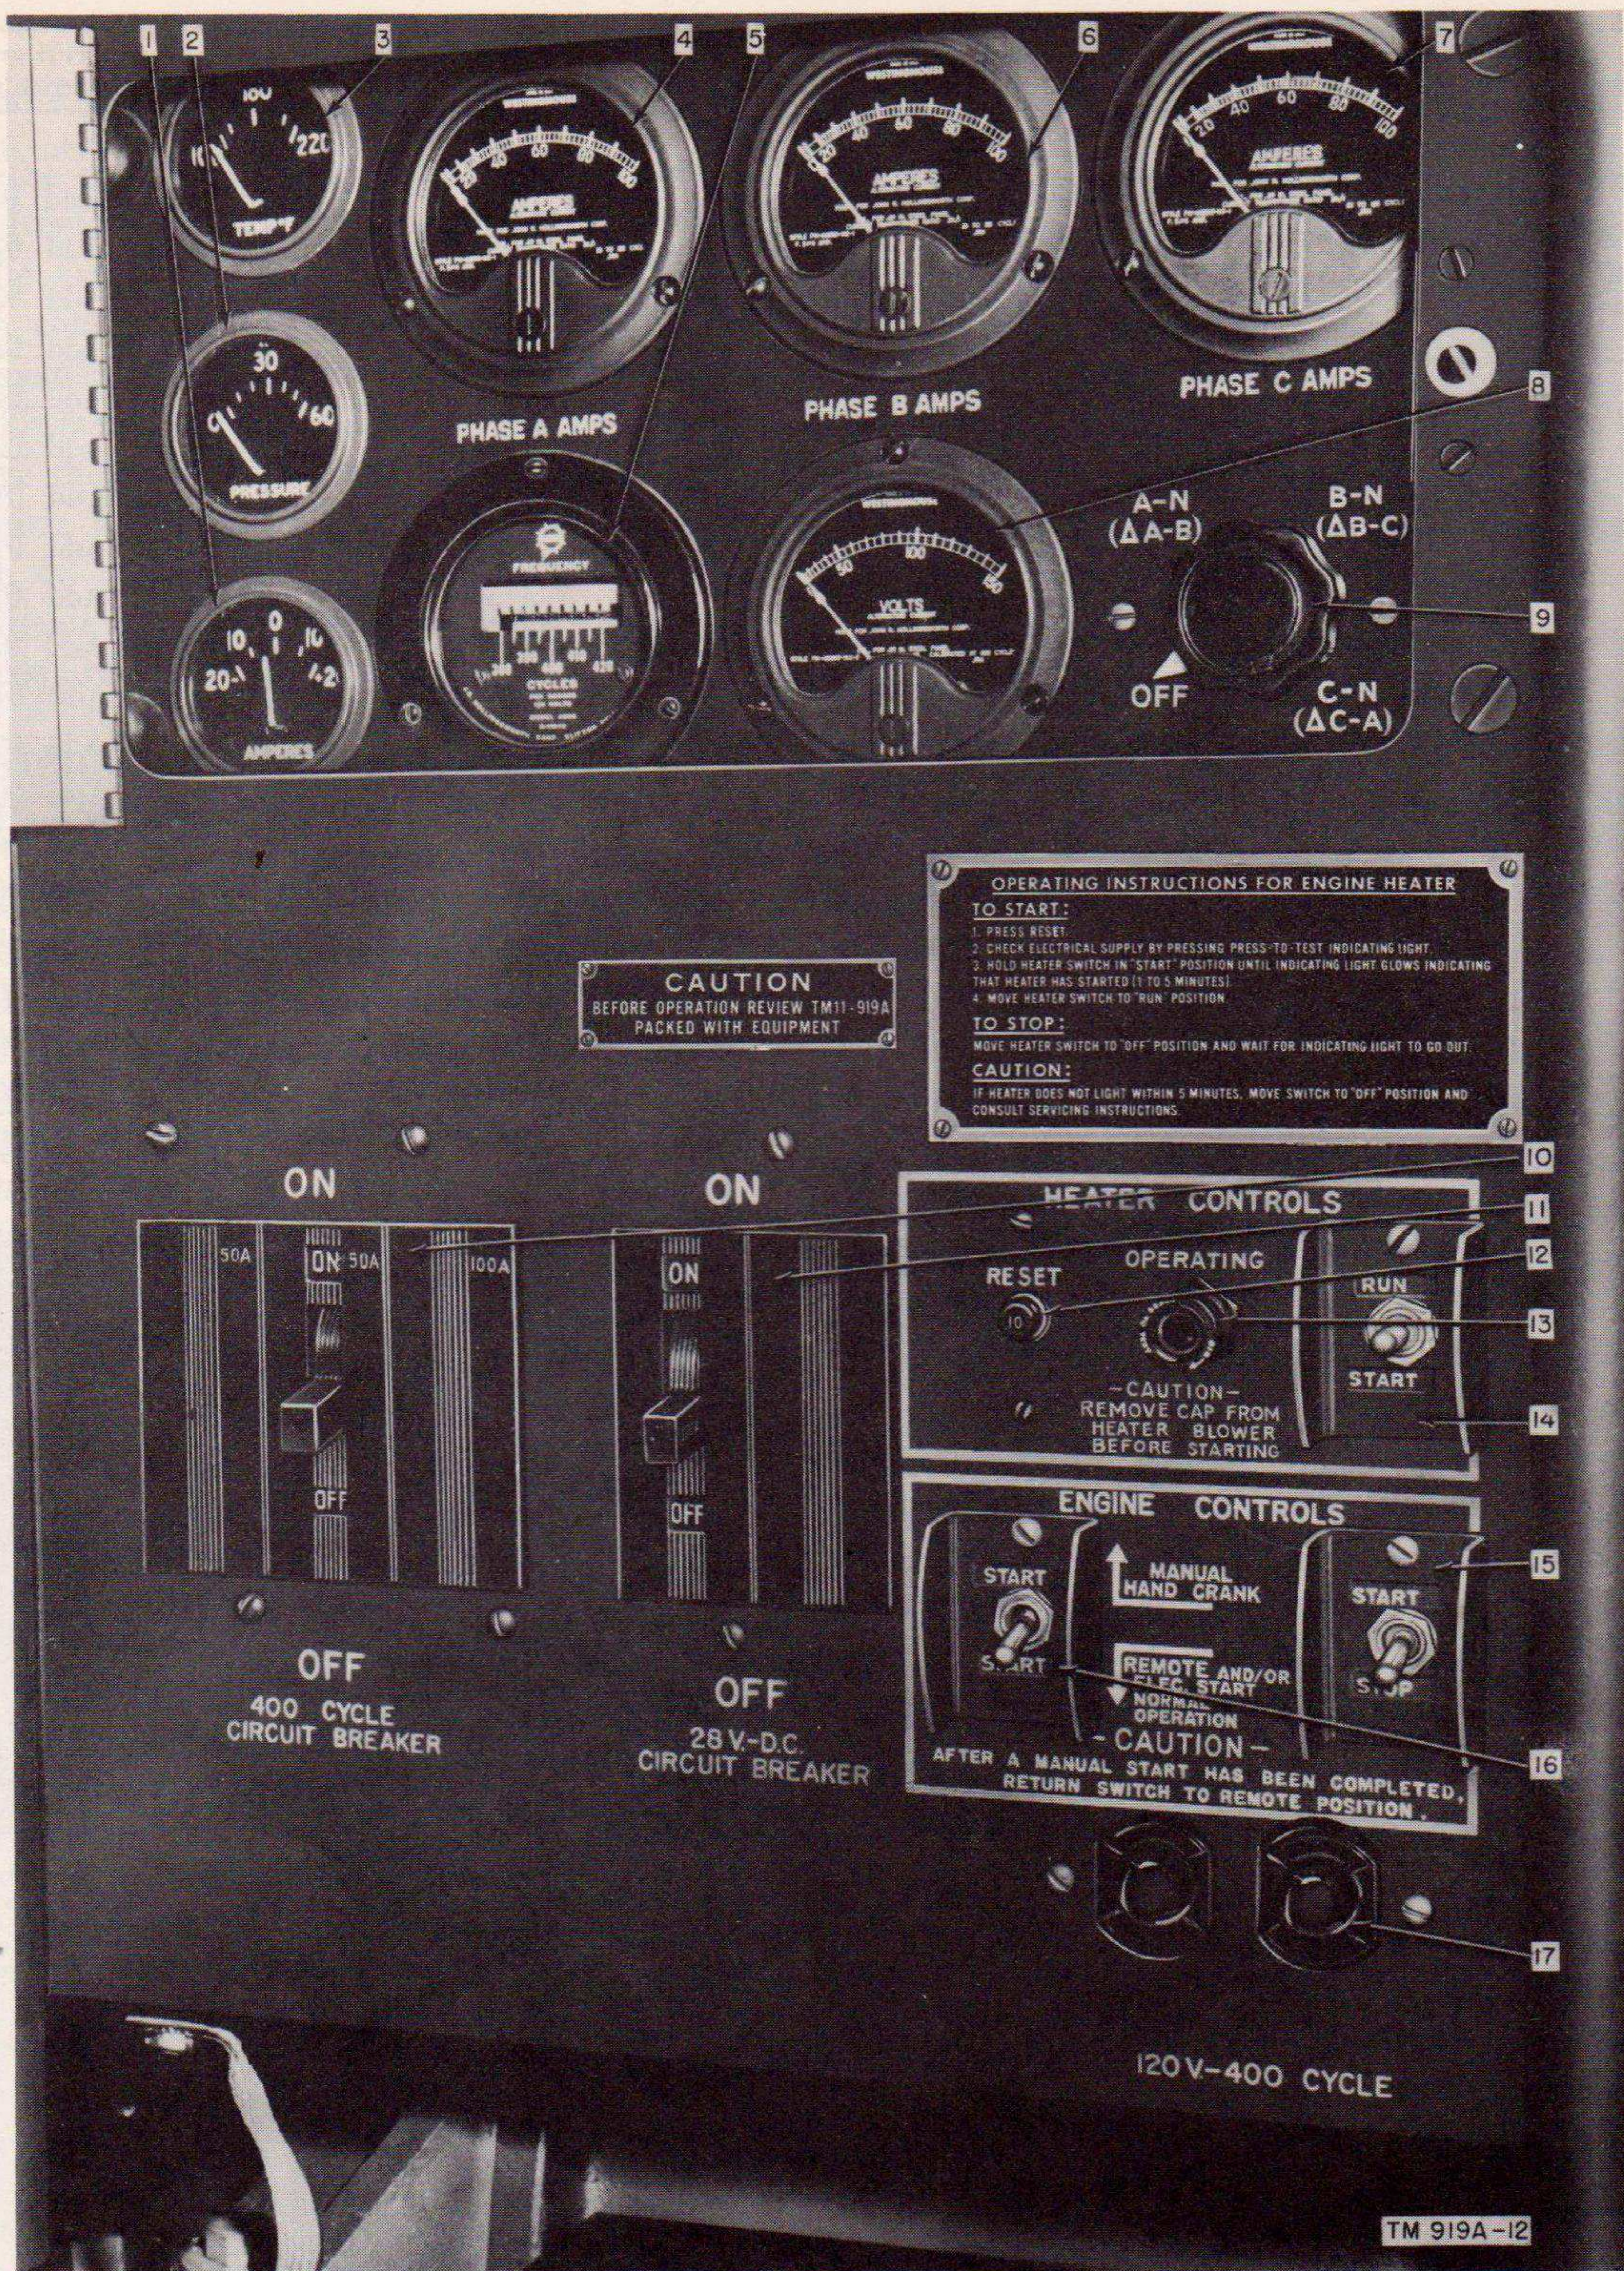

Figure 12. Instrument and control panel.
- (1) *Ignition switch* (16, fig. 12). A toggle-type switch, located on the control panel, selects the ignition circuit for MANUAL HAND CRANK or REMOTE AND/OR ELEC. START NORMAL OPERATION. If the unit is to be started by hand cranking, place the switch in the MANUAL HAND CRANK position; if the set is to be started remotely or by the START-STOP switch (subpar. (2) below), place the switch in the REMOTE AND/OR ELEC. START NORMAL OPERATION position.
- (2) *START-STOP switch* (15, fig. 12). The three-position, START-STOP toggle switch is located on the control panel. To start the set, hold the switch in the START position; to stop the set, place the switch in the STOP position. The switch is designed so that the actuating handle returns to the center position when released from the START position.
and a variable voltage resistor. The 28-V. D. C. CIRCUIT BREAKER (11, fig. 12), mounted on the control panel, serves as the main load switch and the overload trip in the dc circuit. To connect the load, push the trip lever to ON; to disconnect the load, push the trip lever to OFF. The circuit breaker trips off automatically (par. 19b(1)) whenever the circuit becomes overloaded. To reset the circuit breaker after it has tripped, push the lever all the way down to the OFF position and then up to the ON position. The variable resistor on the dc voltage regulator (3, fig. 4) has a range of from 25 to 30 volts. Turn the slotted shaft of the variable resistor until the desired voltage is reached.
*c. Winterization System* (fig. 12). All the winterization controls are located on the control panel.
(1) *Circuit breaker (RESET)*. The circuit breaker (RESET) (12) is used as the main switch to connect and disconnect the winterization system circuit. Push in the RESET button all the way to connect the system; pull out the button to disconnect the system. The circuit breaker trips off automatically (par. 19c(1)) whenever the circuit becomes heavily overloaded. To reset the circuit breaker after it has tripped, push in the RESET button.
(2) *Heater RUN-START switch*. The heater RUN-START switch (14) is used to start and run the winterization heater. To start the heater, after the RESET button has been pushed in (subpar. (1) above), hold the switch in the START position 2 to 4 minutes. After the heater OPERATING indicator lamp (subpar. (3) below) flashes on, place the switch in the RUN position. To shut off the heater, place the switch in the off (center) position.
(3) *Heater OPERATING indicator lamp*. The heater OPERATING indicator lamp (13) shows when the heater is in operation (par. 19c(2)). The lamp also may be used as a check on the power supply to the heater. To check the power supply, be sure the circuit breaker (RESET) button (subpar. (1) above) is in all the way. Then press the lamp. If power is available, the lamp will glow.
(1) *Circuit breaker* (fig. 12). The 400 CYCLE CIRCUIT BREAKER (10) mounted on the control panel, serves as the main load ON-OFF switch and the overload trip in the ac circuit. To connect the load, push the trip lever to ON; to disconnect the load, push the trip lever to OFF. The circuit breaker trips off automatically (par. 19d(1)) whenever the circuit becomes heavily overloaded. To reset the circuit breaker after it has tripped, push the lever all the way down to the OFF position and then up to the ON position.
*e. Miscellaneous.* The 120V-400 CYCLE duplex receptacle (17, fig. 12) mounted on the control panel, is a means of connecting external power for trouble-shooting lamps, fans, or similar equipment requiring 120-volt, 400-cycle power. The receptacle is the Twistlock type and contains two connectors.
- (1) *Circuit breaker* (11, fig. 12). The 28-V. D.C. CIRCUIT BREAKER, mounted on the control panel, trips automatically if the circuit becomes heavily overloaded. The thermal trip release is factory-set for time-delay operation and the circuit breaker is sealed. To reset or manually operate the circuit breaker as a load switch, refer to paragraph 18b.
- (1) *Heater circuit breaker* (12, fig. 12). The heater circuit breaker (RESET) trips automatically when the heater circuit becomes heavily overloaded. For use as a master switch and for the method of resetting, refer to paragraph 18c(1).
- (2) *Heater OPERATING indicator lamp*. The
a. *Engine Instruments* (fig. 12). All the engine instruments are located on the instrument panel.
- (1) *Oil-pressure gage*. The oil-pressure gage (2) indicates the pounds per square inch of oil pressure being delivered to the engine bearings. The gage is of the electric type and will not operate unless the batteries are connected. The gage has a 0 to 60-pound
(2) *Coolant temperature gage.* The coolant temperature gage (3) indicates the temperature of the engine coolant. The gage is of the electric type and will not operate unless the batteries are connected. The scale reading on the gage is from 100° F to 220° F. Normal engine operating temperature is from 165° F to 185° F. If, after warm-up, abnormal temperature is indicated on the gage, proceed as follows: check the coolant and the engine oil level; check the water pump, fan, fan belt, and thermostatic valve for proper operation. Never operate an overheated engine.
(3) *Battery-charging ammeter.* The battery-charging ammeter (1) indicates the rate in amperes at which the batteries are being charged or discharged. The ammeter is calibrated to read from -20 to +20 amperes. Under normal conditions, a charging rate of  $+\frac{1}{2}$  to +5 amperes should be indicated. A higher rate may be indicated if the batteries are discharged. During cold temperatures that require the use of the winterization system for cold engine starting, the use of the heater will indicate a negative (discharge) reading on the ammeter. Starting the heater will show a -12-ampere reading from 1 to 5 minutes; and running the heater will show approximately  $-\frac{3}{4}$  ampere. Negative readings, while the unit is operating, may also indicate that the battery leads are reversed or that there is a short circuit in the charging system. No reading indicates a faulty charging system or a loose or broken connection.
b. *Alternator Instruments* (fig. 12). All the alternator instruments are located on the instrument panel.
(1) *Voltmeter.* The voltmeter (8) is connected to read phase voltage and has a maximum scale reading of 150 volts. A voltmeter selector switch (9), provides facilities to check the voltage from phase to neutral (A-N, B-N, and C-N) when the unit is connected in wye and from phase to phase ( $\Delta$ A-B,  $\Delta$ B-C, and  $\Delta$ C-A) when the unit is connected in delta. With the alternator operating under full balanced load, the voltmeter will indicate 120 volts in all phases. Under no load, the voltmeter will register about 124 volts. If the voltage is too high or too low, check the frequency meter and adjust the engine speed governor as instructed in paragraph 25b.
(2) *Frequency meter.* The frequency meter (5) indicates the cycles per second (cps) of the current being produced by the alternator. Engine speed determines the frequency of the alternator output. The meter scale provides for indications of 380 to 420 cps. Under stable operation at full load, the frequency meter must indicate 400 cps. Any deviation from the desired reading can be adjusted by changing the engine speed as described in paragraph 25b.
(3) *Ammeters.* The three ammeters (4, 6, and 7, fig. 12), connected to the alternator circuit by current transformers, register phase current. The ammeters are designated PHASE A AMPS, PHASE B AMPS, and PHASE C AMPS and provide a maximum scale reading of slightly more than 100 amperes. When the alternator is connected for single-phase, 120-volt output (delta), the PHASE A AMPS and PHASE C AMPS ammeters will register 104 amperes under full load. The PHASE B AMPS ammeter will indicate zero. When the alternator is connected for three-phase, 208-volt output (wye), all the ammeters will register 43.5 amperes under full load. Abnormal ammeter readings indicate an unbalanced load, defective ammeters, or defective lines to the load.